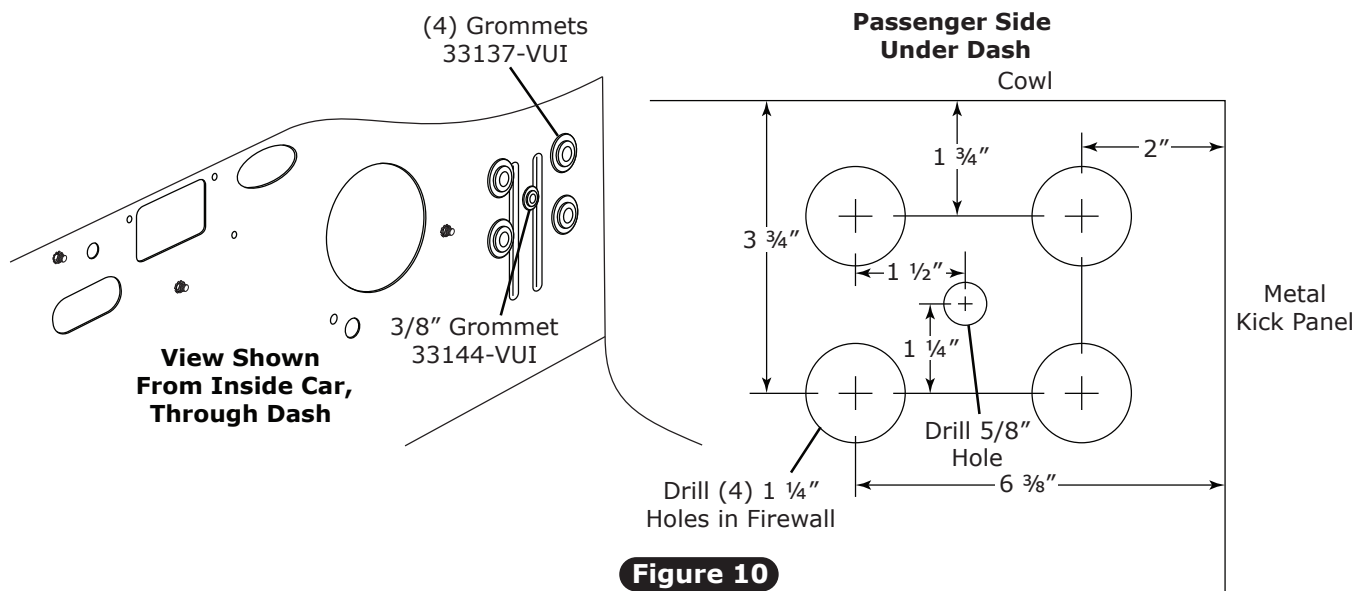

Figure 10
1. Drill (4) 1 1/4" holes in firewall using measurements in Figure 10, below.
2. Drill 5/8" hole in firewall (See Figure 10, below).
3. Install grommets in firewall (See Figure 10, below).